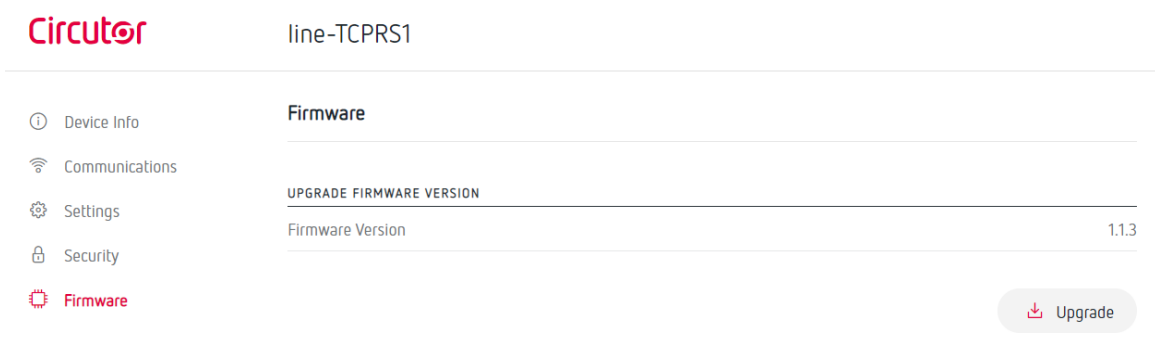

Figure 41: Website: Firmware.
- ✓ On the **Firmware** screen, update the device's firmware (Figure 41).